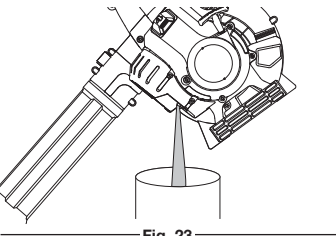

Fig. 23
2. Pour the oil out of the oil fill hole and into a container by tipping the unit to a vertical position (Fig. 23). Allow ample time for complete drainage.